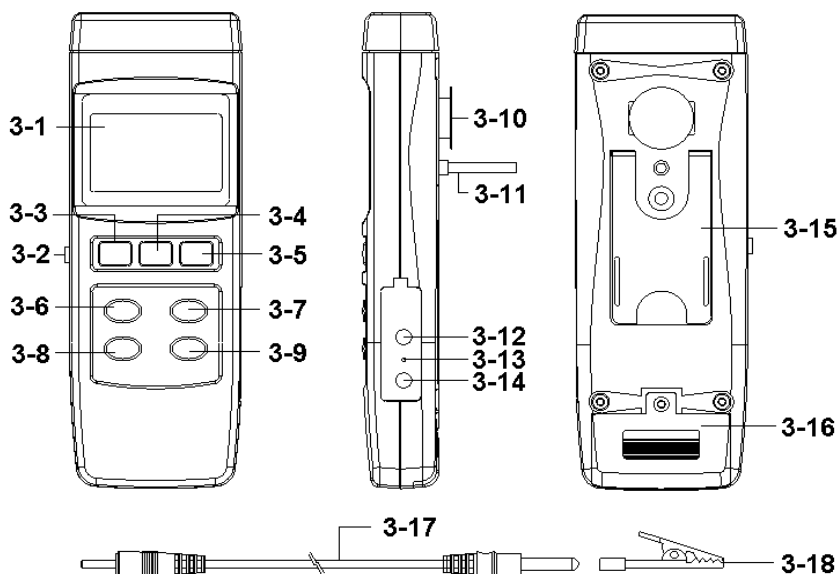

Fig. 1
1. Press the "POWER / Backlight button" (3-3 , Fig. 1) more than 2 seconds to Turn ON the meter.
2. Press the "POWER / Backlight button" (3-3 , Fig. 1) more than 2 seconds to Turn OFF the meter.
1. Use the accessories EARTH wire (3-17 , Fig.1) to connect to the building's EARTH ground from the meter "GROUND terminal" (3-14 , Fig.1). ie. From electrical outlet ground terminal.
- 2 Operator is attached to the EARTH ground by way of an Anti-static wrist strap (not provided), and finger placed on the "GROUND point" (3-2 , Fig.1).
Before you measure the STATIC Voltage. If the meter has a reading on the screen .You can press the 'ZERO' button (3-6 , Fig.1) once to clear the reading.
When measuring the STATIC Voltage . use the "Magnetic SPACER" (3-11 , Fig.1) to magnetically attach to the back of the meter, just below the "SENSE disk" (3-10 , Fig.1).
Distance between "SENSE disk" (3-10 , Fig.1) and test area is 1 inch (2.54 cm).
1. Press the "POWER / Backlight button" (3-3 , Fig.1) more than 2 seconds to Turn ON the meter.
3. Aim the "SENSE disk" (3-10 , Fig.1) toward the object (without touching the disk).
2. To change the voltage value to limit you can press the " ALARM button " ( 3-8 , Fig.1) more than 2 seconds to Turn ON the setting function and ALARM symbol will luminate. The first digit of alarm value will flash . Now you can press the " ▲ button " ( 3-7 , Fig.1) to increase the value . or press the " ▼ button " ( 3-9 , Fig.1) to decrease the value .
3. When you finish the first figures . you can press the " ALARM button " ( 3-8 , Fig.1 ) to setting next figures .
4. When you finish your limit value . you can press the " ALARM " button " ( 3-8 , Fig.1) more than 2 seconds to save the setting value & return to measuring mode .
During measurement, press the "HOLD Button" (3-4 , Fig.1) once, to hold the measured value (LCD will display a " HOLD " symbol . Press the " HOLD Button " ( 3-4 , Fig.1 ) once again will release the data hold function .
- 1 The data record function records the maximum and minimum readings . Press the " REC Button " ( 3-5 , Fig. 1 ) once to start the Data Record function and there will be a " REC " symbol on the display .
- a) Press the " REC Button " ( 3-5 , Fig.1 ) once , the " REC MAX " symbol will appear on the display and LCD will be showing the maximum value.
- b) Press the " REC Button " ( 3-5 , Fig.1 ) again, the " REC MIN " symbol will appear on the display and LCD will be showing the minimum value.
- c) Press the " REC Button " ( 3-5 , Fig.1 ) again to return to the current reading.
3. To exit the memory recording function , just press and hold the " REC button " ( 3-5 , Fig.1 ) for at least 2 seconds. The display will revert to the current reading.
2. While the instrument is powered up, Press the " POWER / Backlight button " ( 3-3 , Fig.1 ) once to turn on the light.
3. Press the " POWER / Backlight button " ( 3-3 , Fig.1 ) again will turn OFF the Backlight.
**To RESET:** Turn the meter power on, at the same time use a pin to press the "RESET button" ( 3-13 , Fig.1 ). This will reset the circuit system.
The instrument has RS232 PC serial interface via a 3.5 mm terminal ( 3-12, Fig. 1 ).
- 2)Open the screw of " Battery Cover " ( 3-16 , Fig.1 )by screwdriver, then remove the battery.